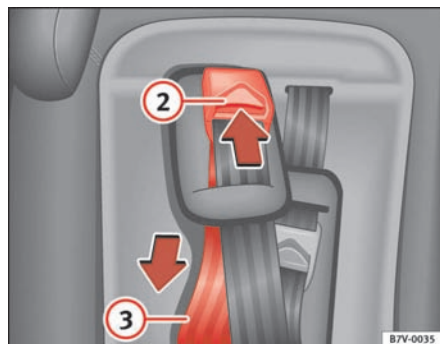

Fig. 39 Section of integrated child seat: Harness belt adjustment
- Press and hold the release button ⇒ **fig. 39** **2** in the direction of the arrow.